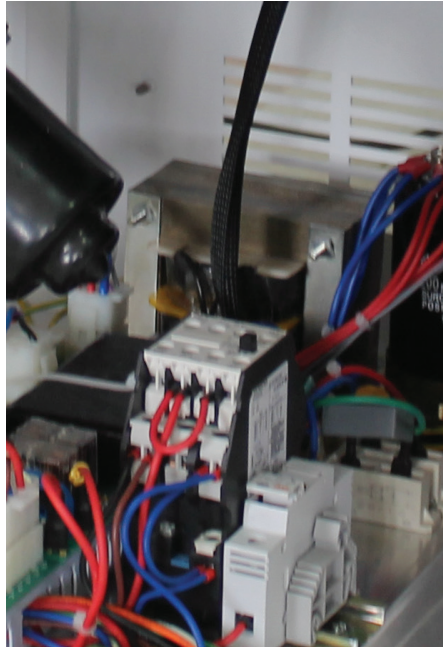
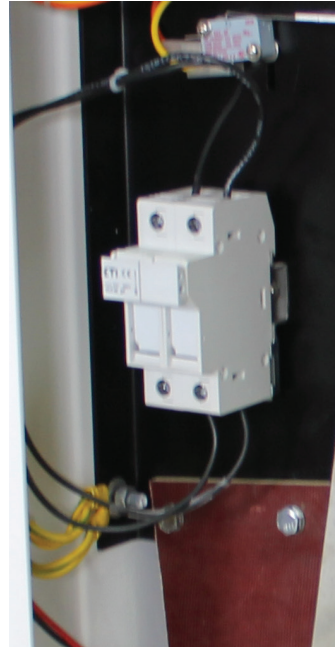

Fig. 6: Changing 20 A fuses
Fig. 7: Changing 10 A fuses
-Open the gate on the body of the machine. At the front part, there are two 20 A fuses. Change them as shown in Fig. 6. There is another 10 A fuse at the lower part of the machine where electronic boards are fitted. You can change these fuses as shown in Fig. 7.